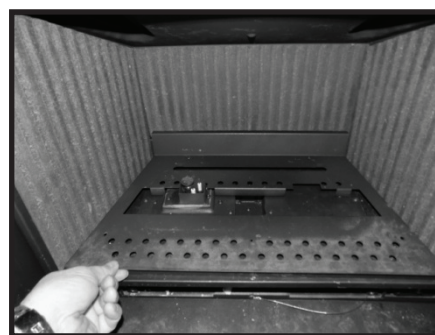

Figure 52
3. Remove two screws from the burner plate (Fig. 52) and remove.